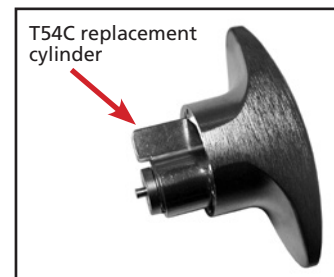

Figure 5
5. Insert the new T54C cylinder. **(Fig. 5)**